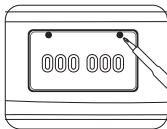

FIG 1
1. Remove the rear licence plate from the vehicle (**FIG 1 and 2**) by undoing the bolts/screws.